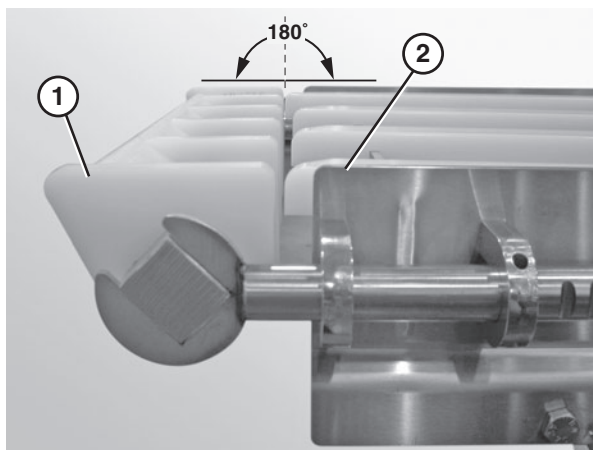

Figure 22
- Ensure that the nose bar pucks (**Figure 22, item 1**) are in line with the conveyor frame (**Figure 22, item 2**).